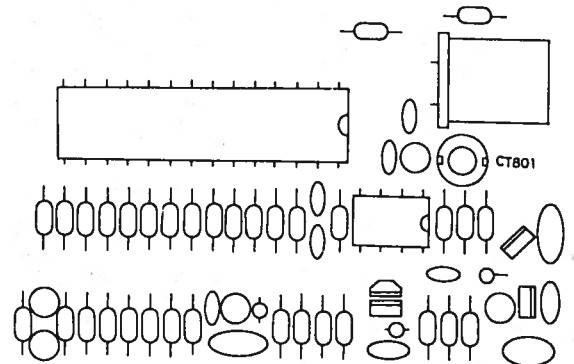

Figure 2
3. Read the frequency counter display, and adjust CT801 to obtain a reading of 1450 kHz \pm 3 Hz. (See Figure 2 for location of CT801)